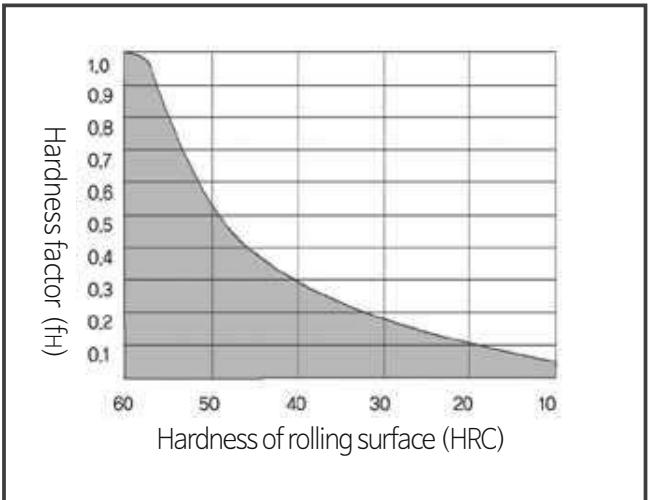

Figure 2. Hardness factor (fH)
- C : Basic dynamic rated load (N)
- PC : Calculated load (N)
- fH : Hardness factor (See Figure 2.)